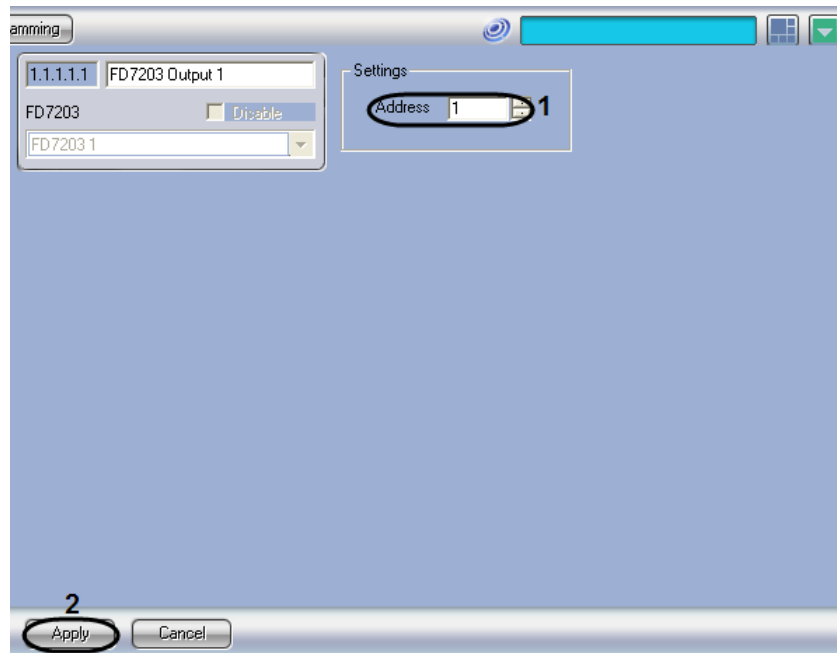

Fig. 3.6—7 Configuring outputs of the FD7203 addressable module
1. Go to the settings panel of the “FD7203 output” object (Fig. 3.6—7).
2. Enter the CAN network address of the FD7203 module output into the “Address” field (see Fig. 3.6—7, 1).
3. To save the settings into the Intellect internal DB, click the “Apply” button (see Fig. 3.6—7, 2).